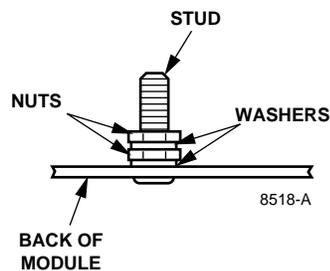

Figure 5. Ground Stud Assembly Installation
- **Note:** Before mounting the wall box, unlock and open the left front cover, then install (from the back) any needed ground stud assemblies near the left side of the wall box. See Figure 5. Sufficient hardware for four stud assemblies is supplied with the wall box.
2.12 Each grounding kit for the wall box consists of a 12-inch length of AWG #6 stranded wire with a #6 ring terminal, together with a #6 - 14 lug connector and a shield connector. The grounding kits are to be used for grounding OSP cables to the ground stud assemblies previously installed on the rear panel of the wall box. If an OSP cable has a grounding tab, connect it to the nearest ground stud (Figure 5) using the grounding kit.